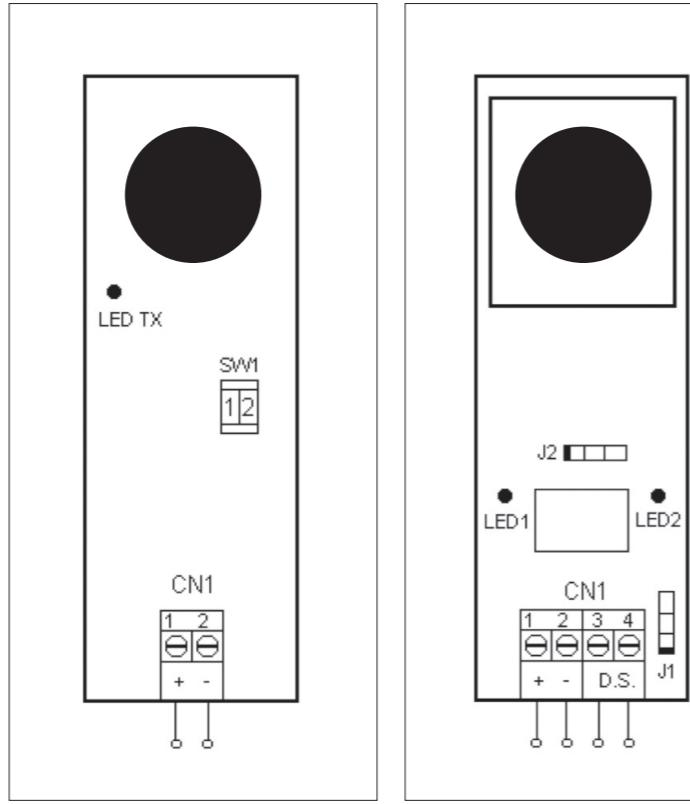

FIG. 2
- To orient the photocell undo the screw at the bottom and turn the board until the transmitter is in communication with the receiver. When the photocells are aligned receiver LED 1 will switch on (FIG. 2).